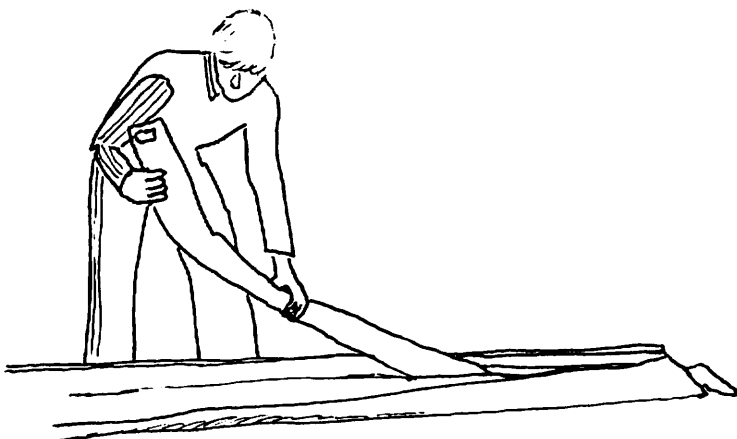

FIG 2
- 2) Undo the zipper, and remove the battens from between the rear leading edges as shown. (Fig 2)